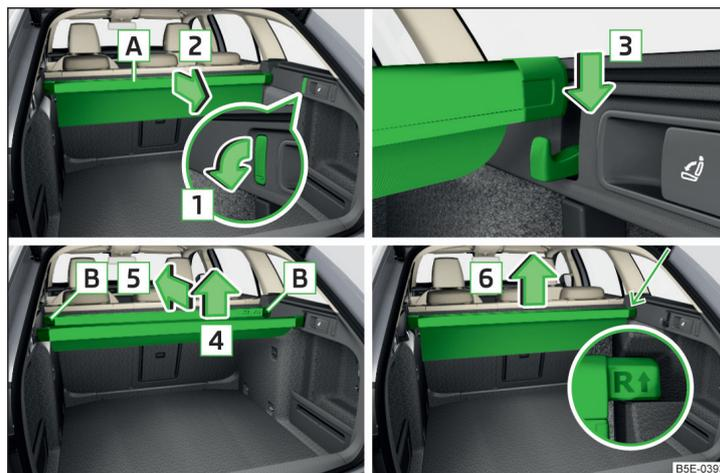

Fig. 122 Multi-function pocket: Pull out / insert / push in / remove multi-function pocket
- › Fold down the front hooks on both sides of the luggage compartment in the direction of arrow **1** » Fig. 122.
- › Remove the rear bar from the hooks in the direction of arrow **4** and push in the pocket in the direction of arrow **5** » Fig. 122.
- › Remove the pocket from the fittings in the direction of the arrow **6** » Fig. 122.